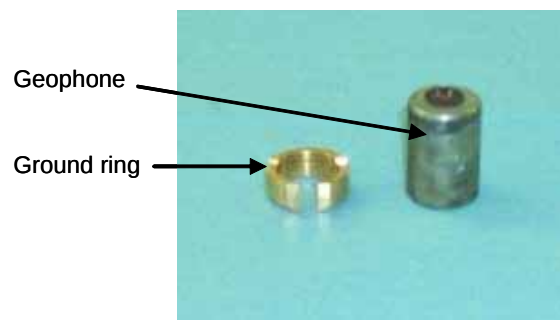

Figure 114. Ground ring and geophone.
1. Mount the ground ring to the geophone (figures 114 and 115).